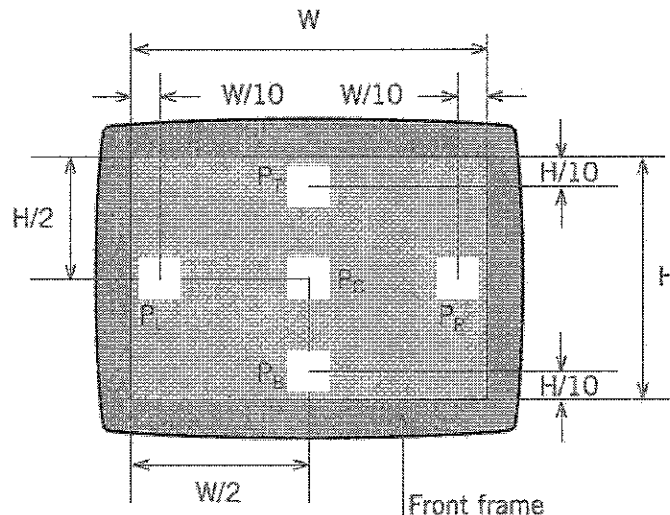

Figure1: Measurement positions for angular dependence luminance uniformity.
1. Refer to Fig 1&2, for FPDs in the horizontal direction, the mean value of the Lmax. to Lmin. ratios at ± 30 degrees shall be ≤ 1.7 .
2. Refer to Fig.1&3, for FPDs in the vertical direction, the value of Lmax. to Lmin. ratio at $+15$ degree shall be ≤ 1.7 and the largest value of Lmax. to Lmin. ratio at ± 15 degree shall be
Refer to Fig 1&2, center point(P_c) Luminance of White(L_w) and Black(L_b) is measured at ± 30 degrees.